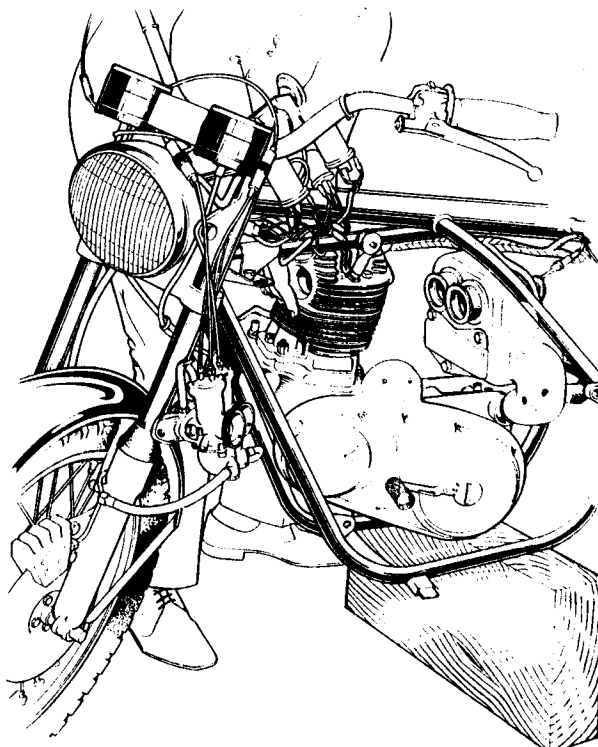

Fig. F2 Lifting out power unit to right side
- 36 As shown in *Fig. F2*, lift the power unit bodily from the frame to the right hand side. Raise the front of the power unit and lower the rear to clear the airbox. The clearance is minimal but with the electric-starter removed the operation is possible.